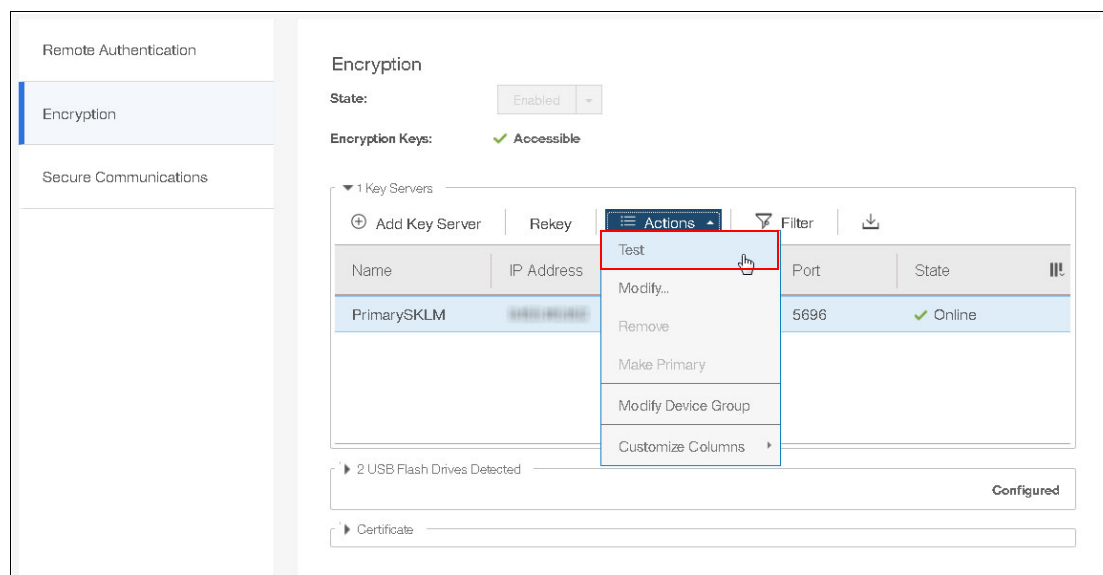

Figure 7-71 Test each configured key server before disable USB encryption
2. In the FlashSystem 900 GUI, click **Settings** → **Security** → **Encryption**. Expand the Key Server tab and click **Actions** → **Test** for each configured key server, as shown in Figure 7-71.